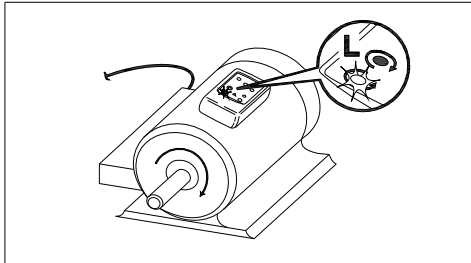

Figure 3. Motor Rotation
- Position the Indicator on the motor so that it is parallel to the length of the motor shaft. The Indicator should be one inch or close to the motor. See Figure 3.